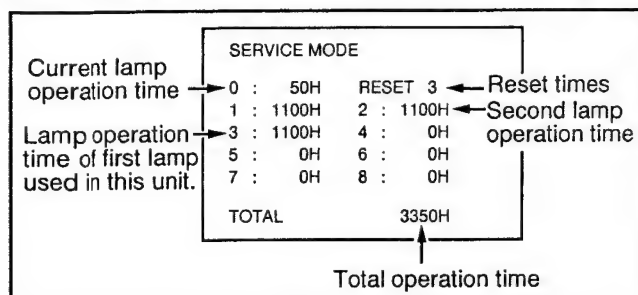

Fig. S4
- 2) Lamp operation time will be displayed as shown in Fig. S4.